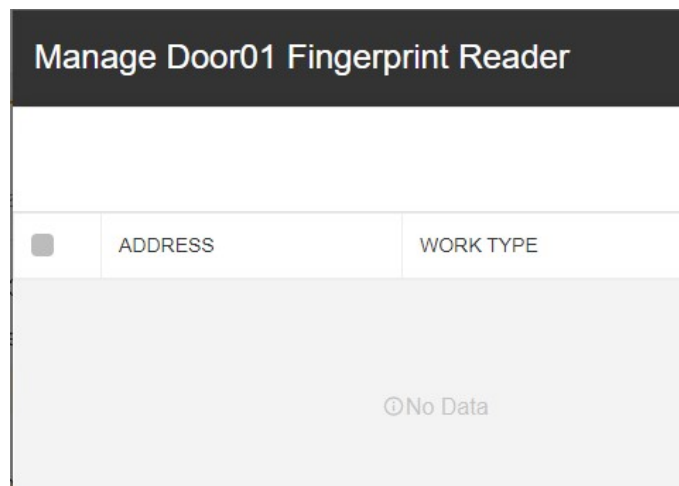

Figure 13-21 Managing the fingerprint reader
1. Click  on the right side of the door connected to the IP access controller and select **Manage Fingerprint Reader** from the pop-up drop-down menu. The **Manage Fingerprint Reader** page is displayed, as shown in Figure 13-21.